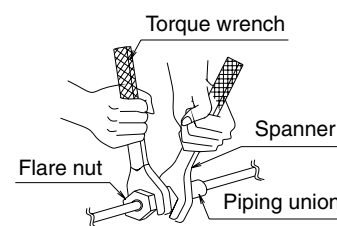

Fig. 6
(1) Connect the piping.
- Be sure to use both a spanner and torque wrench together, as shown in the drawing, when connecting or disconnecting pipes to/from the unit. **(Refer to Fig. 6)**